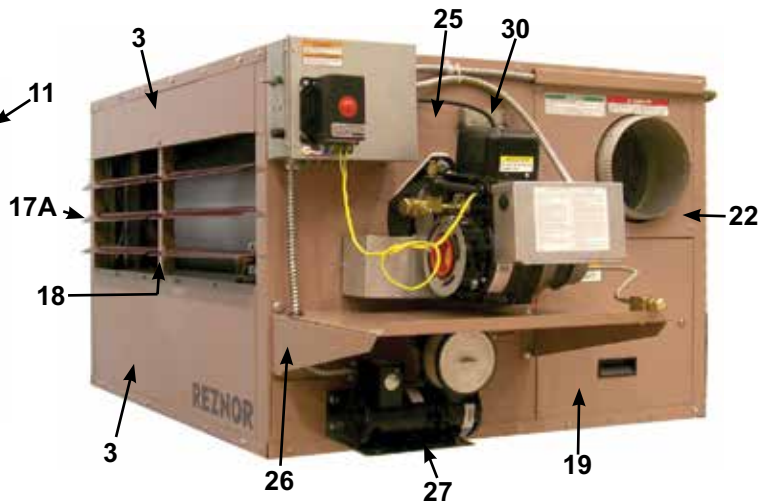
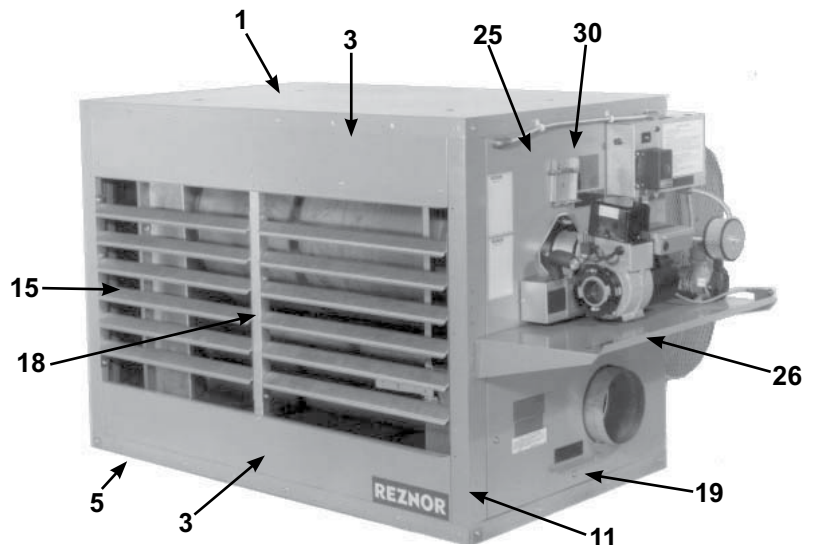
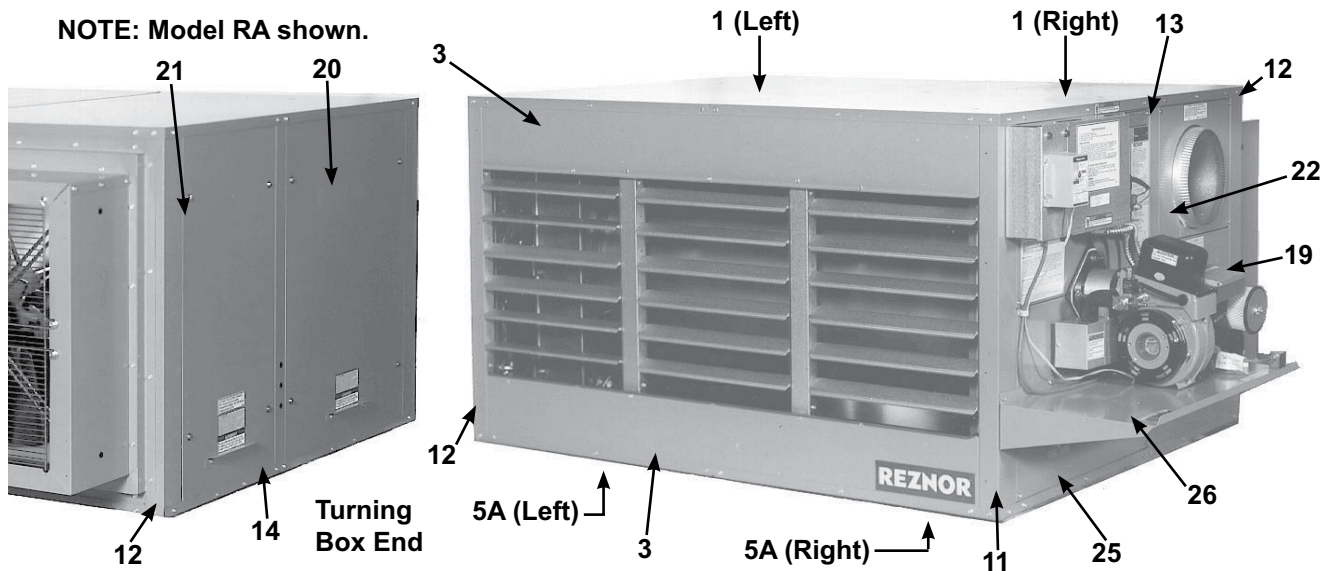

Figure 16. Cabinet Components—Model RA/RAD, Unit Sizes 150 and 250 (Refer to Table 13)
Figure 17. Cabinet Components—Model RA/RAD, Unit Size 350 (Refer to Table 13)
Figure 18. Cabinet Components—Model RA/RAD, Unit Size 500 (Refer to Table 13)
- Cabinet components for models RA and RAD are shown in Figure 15, Figure 16, Figure 17, Figure 18, and Figure 19 and are listed in Table 13.